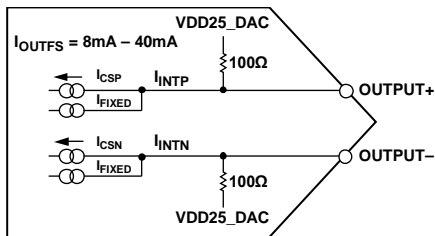

Figure 188. Equivalent DAC Output Circuit
The AD9161/AD9162 provide complementary current outputs, OUTPUT+ and OUTPUT-, that sink current from an external load that is referenced to the 2.5 V VDD25\_DAC supply. Figure 188 shows an equivalent output circuit for the DAC. Compared to most current output DACs of this type, the outputs of the AD9161/AD9162 consist of a constant current (IFIXED), and a peak differential ac current, ICS (ICS = ICSP + ICSN). These two currents combine to form the IINTX currents shown in Figure 188. The internal currents, IINTP and IINTN, are sent to the output pin and to an input termination resistance equivalent to 100 Ω pulled to the VDD25\_DAC supply (RINT). This termination serves to divide the output current based on the external termination resistors that are pulled to VDD25\_DAC.
The example shown in Figure 188 can be modeled as a pair of dc current sources that source a current of IOUT to each output. This differential ac current source is used to model the signal (that is, a digital code) dependent nature of the DAC output. The polarity and signal dependency of this ac current source are related to the digital code (F) by the following equation: